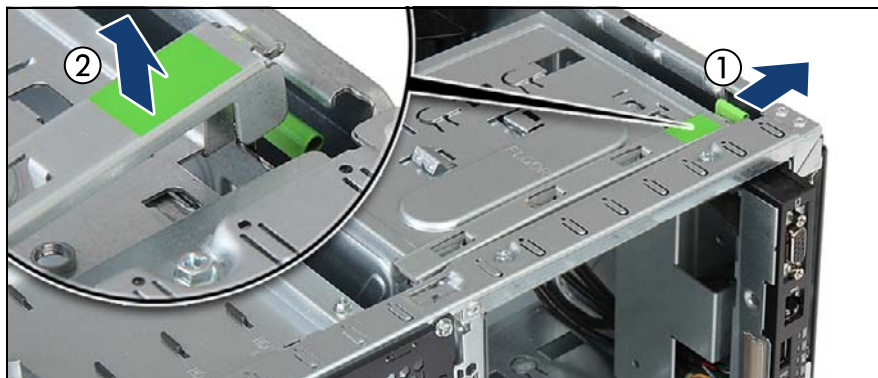

Figure 214: Opening the accessible drive locking bar
- ▶ Press out on the locking latch to disengage the accessible drive locking bar (see figure 214).